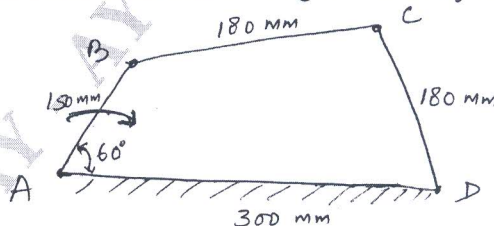

Fig.Q.4(b)
- b. In a pin jointed 4-bar mechanism as shown in Fig.Q.4(b),  $AB = 150\text{mm}$ ,  $BC = CD = 180\text{mm}$  and  $AD = 300\text{mm}$ . The angle of  $BAD = 60^\circ$ . The crank AB rotates uniformly at 100rpm. Locate all the instantaneous center and find the angular velocity of the link BC. (10 Marks)